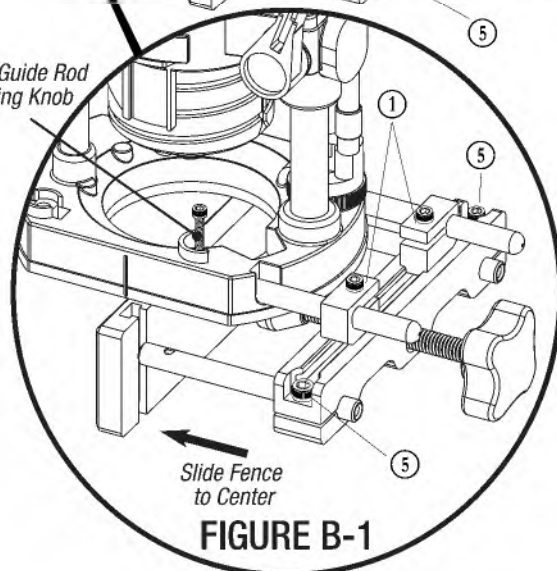

FIGURE B-1
- Roughly center the ② Router Guide Rods on the fence assembly and then slide the ⑥ Fence in towards the center of the router by hand. When the Mortise Base is roughly centered on the router base, loosely tighten both ① Router Guide Rod Clamps before fully tightening both. **Figure B-1.**